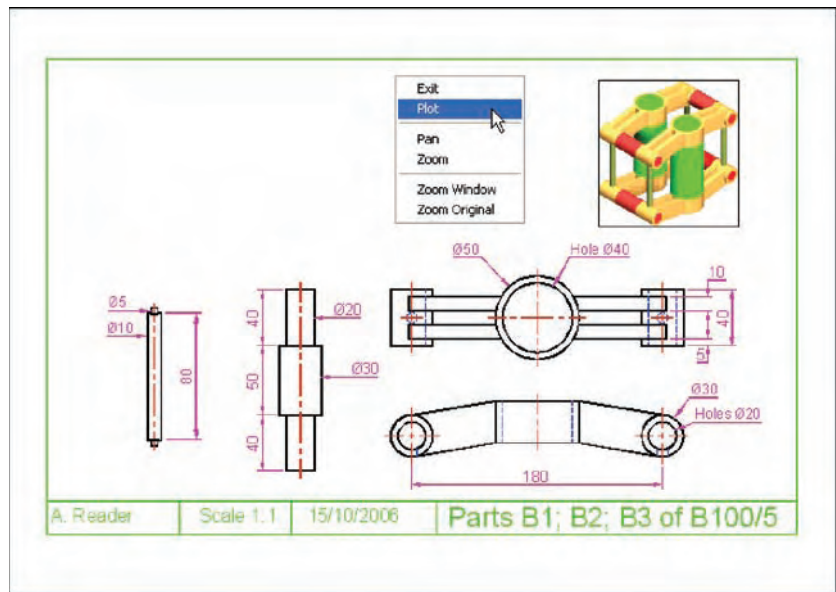

Fig. A.5 The Plot Preview window with its right-click menu
4. A preview of the drawing to be printed/plotted appears (Fig. A.5). If satisfied with the preview, *right-click* and from the menu which appears *click Plot*. If not satisfied *click Exit*. The preview disappears and the **Plot** dialog reappears. Make changes as required from an inspection of the preview and carry on in this manner until a plot can be made.